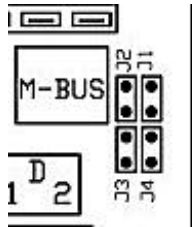

Fig 2.5, 2/4-Wire jumpers
**Note:** the placing of the jumpers according to fig 2.5.